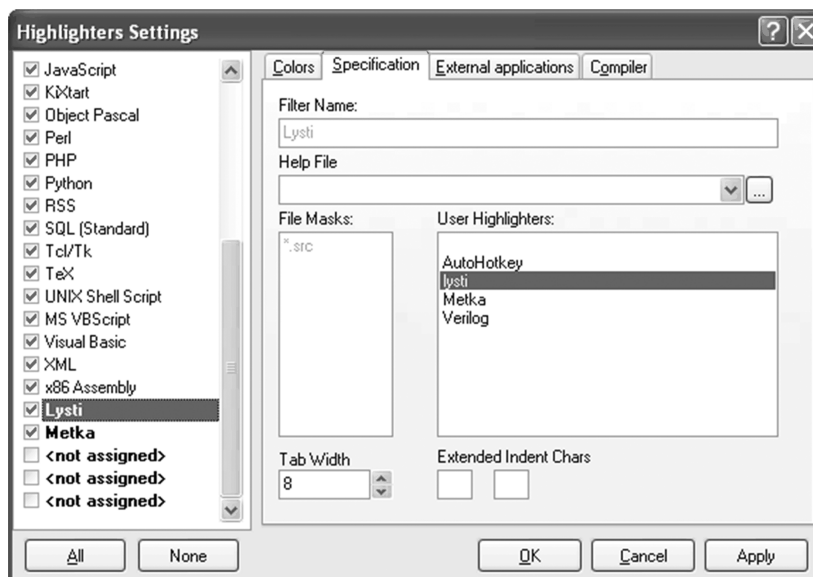

Figure 1. PSPad Highlighter Specification Settings for LP55231
2. Select Specification tab. See Figure 1.
4. On the right side is list of user highlighters, select the Lysti highlighter and click on it (see Figure 1). Click on 'Apply' to confirm this action.